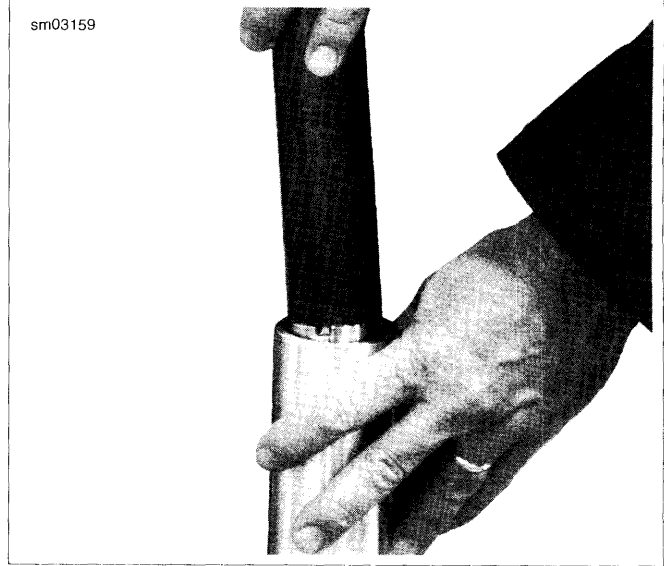

Figure 2-181. Hand Tighten
- See Figure 2-181. Final tighten inner fork nut to 69-83 ft-lbs (93-113 Nm) using INNER FORK NUT REMOVER/INSTALLER (Part No. HD-47852).